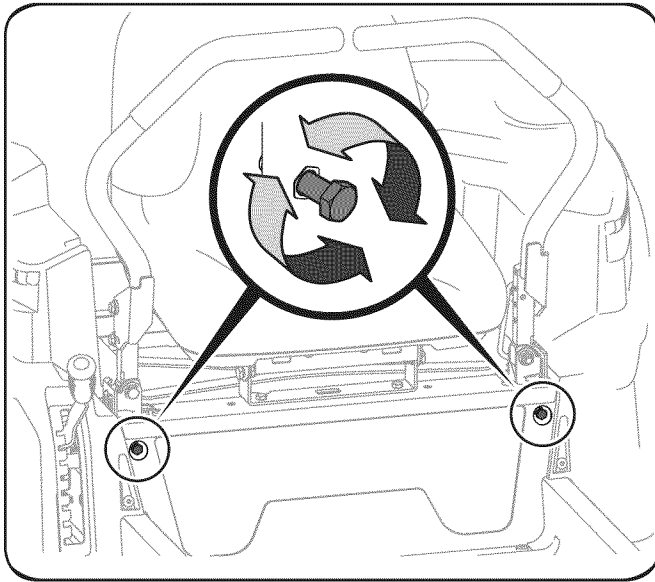

Figure 23
2. Locate the drive control lever stop adjustment bolts on the front of the seat frame. See Figure 23.